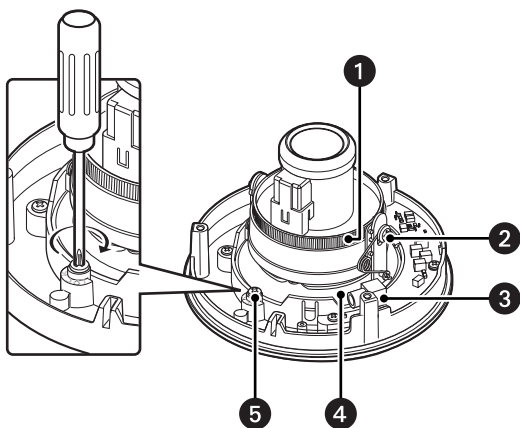

Figure 32. Adjusting the Camera Angle
4. Adjust the camera angle (refer to Figure 32 on page 40):